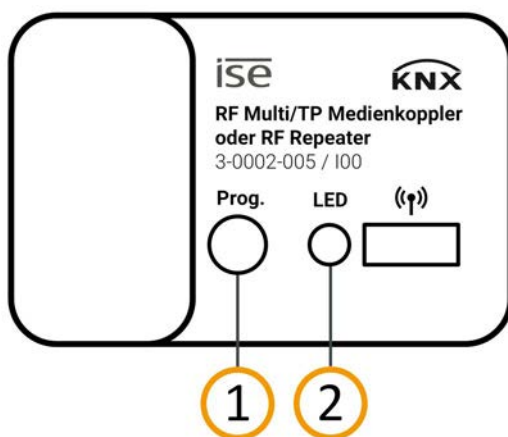

Figure 14: Programming
1. Briefly press the programming button (see figure 14, Pos. 1).
The status LED (see figure 14, Pos. 2) lights up red.